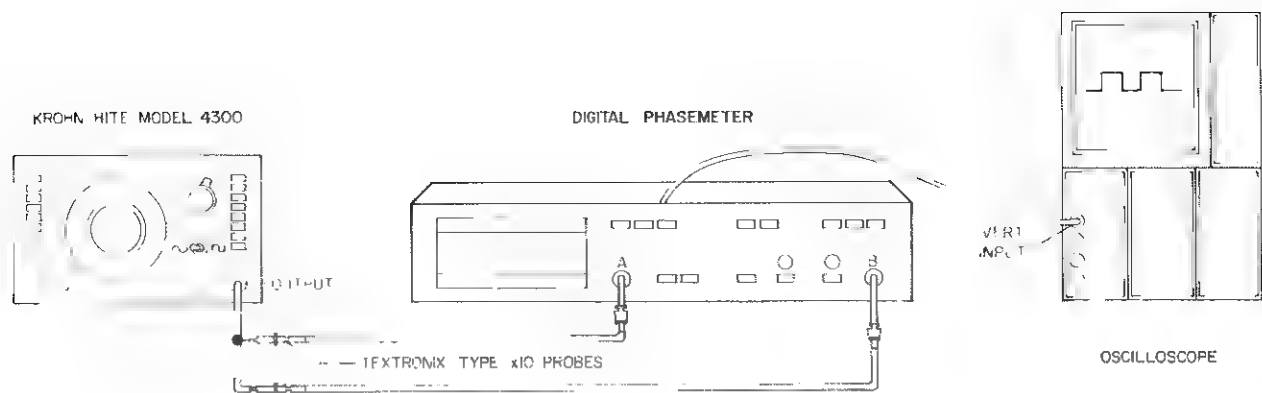

Figure 19. Attenuator Impedance Adjustment Test Set-up
Connect a square wave generator to the phasemeter inputs, using two (2) x 10 probes as shown in Figure 19. Set input attenuators to 0.1-1.2V, phasemeter waveform switch to \square . Set the generator frequency to 1 KHz, output to .3V p-p. Connect the oscilloscope, using a calibrated X10 probe to phasemeter TP7. Set the oscilloscope for 10 mv/cm, Cal., AC coupled, horizontal to .2 ms/cm Cal. Adjust the probe connected to input A for a good square wave on the scope. (A slight ringing is normal).